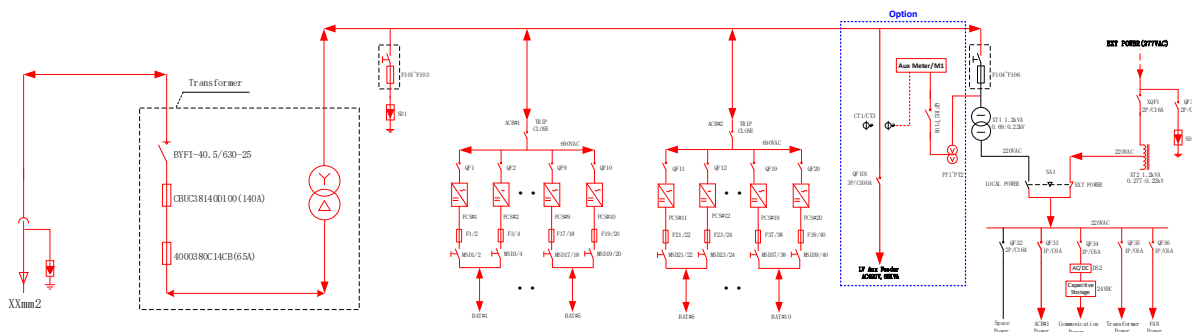

Figure 3-20 Power on state diagram -1#
- After the device is powered on normally, the power supply direction of the main power supply and auxiliary power supply is shown in the red line in Figure 3-20.